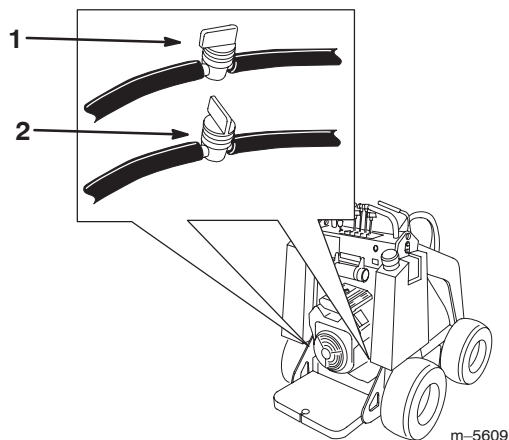

Figure 26
2. Shut off the fuel valve on the bottom of each fuel tank (Fig. 26).
3. Shut off the fuel valve in the hose near the bottom of each fuel tank as illustrated in Figure 26.
8. Open the fuel valve in the hose near the bottom of each fuel tank as illustrated in Figure 26.